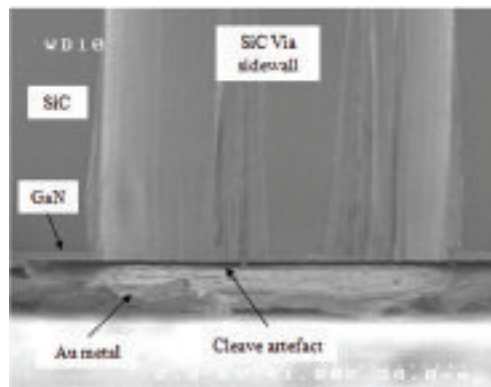

FIGURE 8.
**FIGURE 8** shows the via base following GaN etching using a Cl2/BCl3 chemistry in the same APS module. This process takes place after the Ni mask has been stripped and the via wet cleaned of polymer. Selective etching of the GaN to the Au metallisation is achieved.